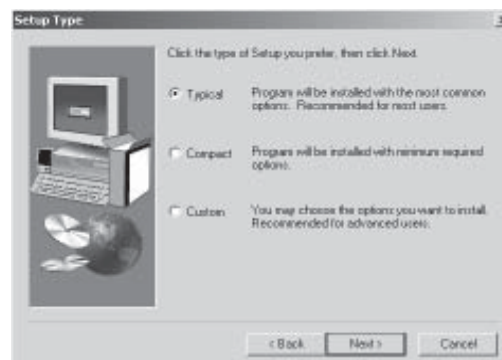

Fig. 2-5 Installation Interface 5
Step4. Setup Installation/Deletion Folders. (This item will appear in the function menu of **°Control Panel°Add/Delete°**. We select **°SCADA for FAB** for example). Completing the setup, click **°Next±** to continue in Fig. 2-5.